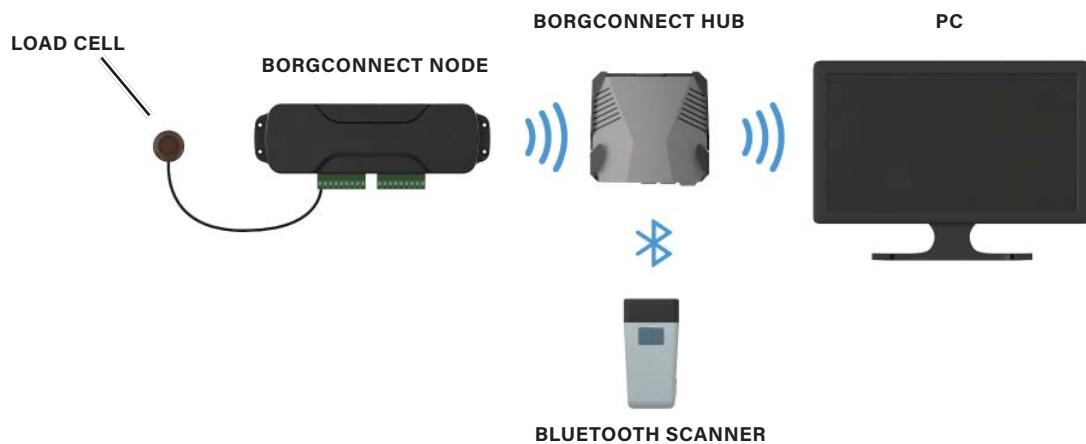

Figure 9-8. Diagram of Production Counting Application
7. Examine the control diagram of the production counting application in figure 9-8.